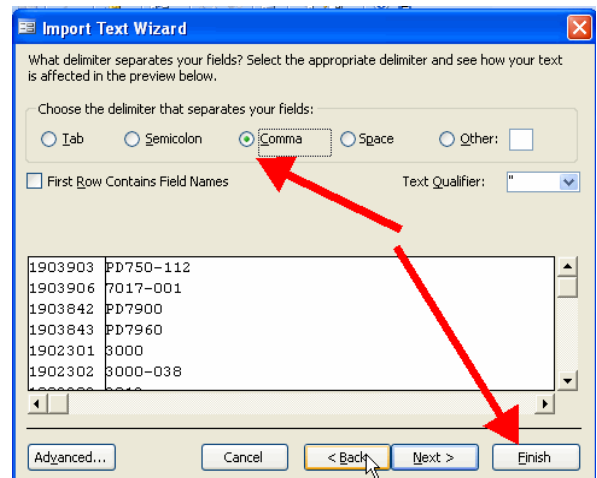

Figure 5-9b
5.2.19. Choose *Comma* as the delimiter, and then click [**Finish**]. (Figure 5-9b)